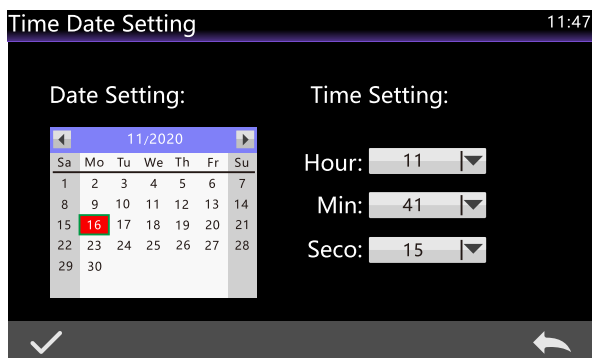

Figure 56 Date Setting Interface
**Date Setting:** Click "Date Setting" to view the date and month, click on a date to set the date, as shown in Figure 56. After inputting, click confirm " ✓ " below to save the set date, and click the return " ⬅ " button to cancel saving.